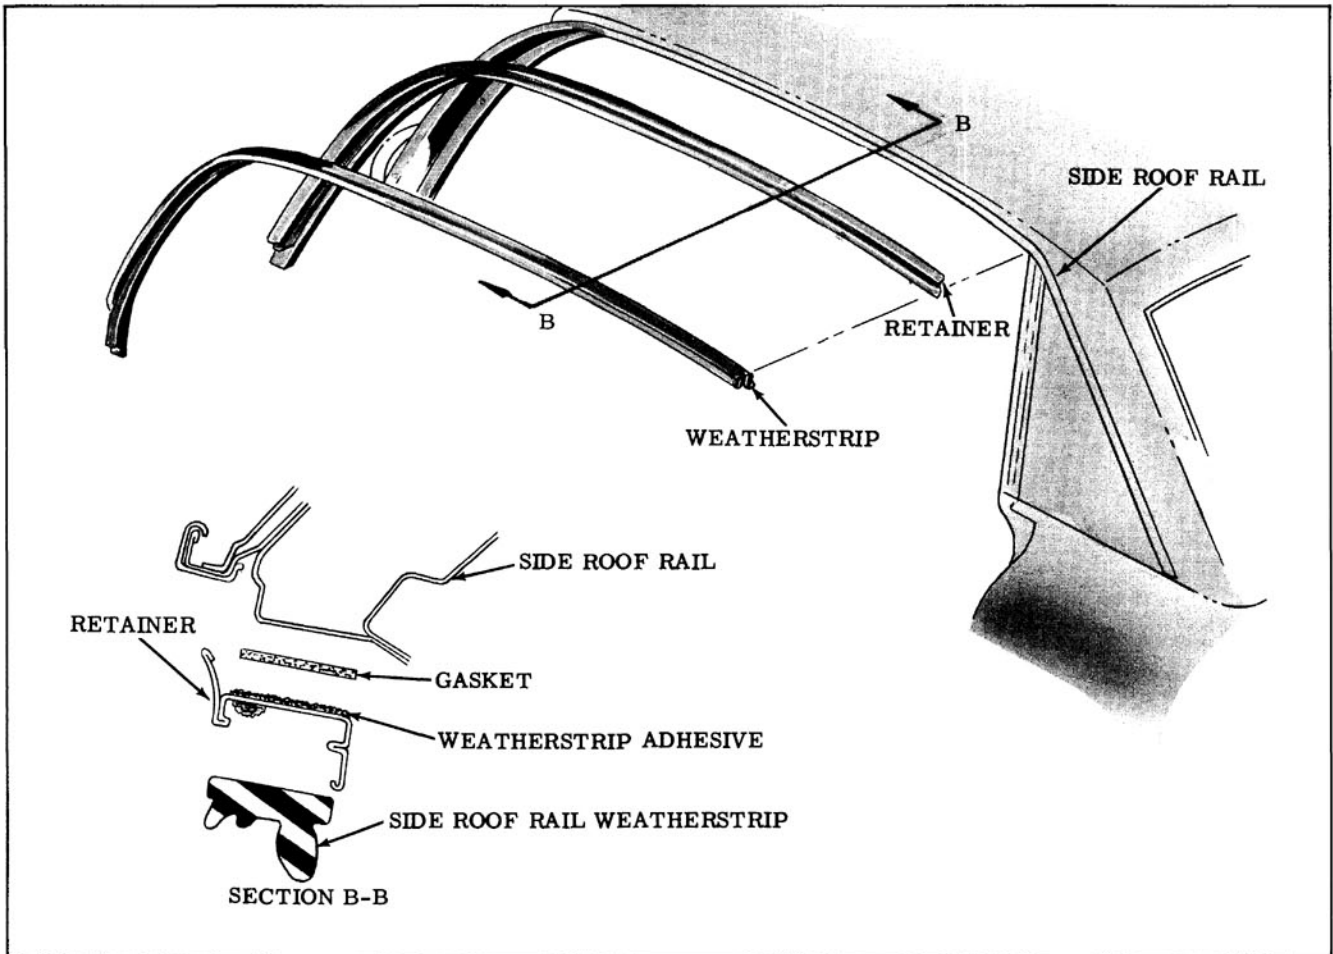

Fig. 16-75 Weatherstrip Assembly (29 Style)
2. Apply a continuous bead (approximately 3/16" diameter) of weatherstrip adhesive along entire outboard surface of side roof rail weatherstrip retainer. (Section B-B, Fig. 16-75)
NOTE: The side roof rail retainer to side roof rail sealing gasket (Fig. 16-75) is not installed in production, but is recommended for service sealing. This gasket can be cut to size from existing stock.